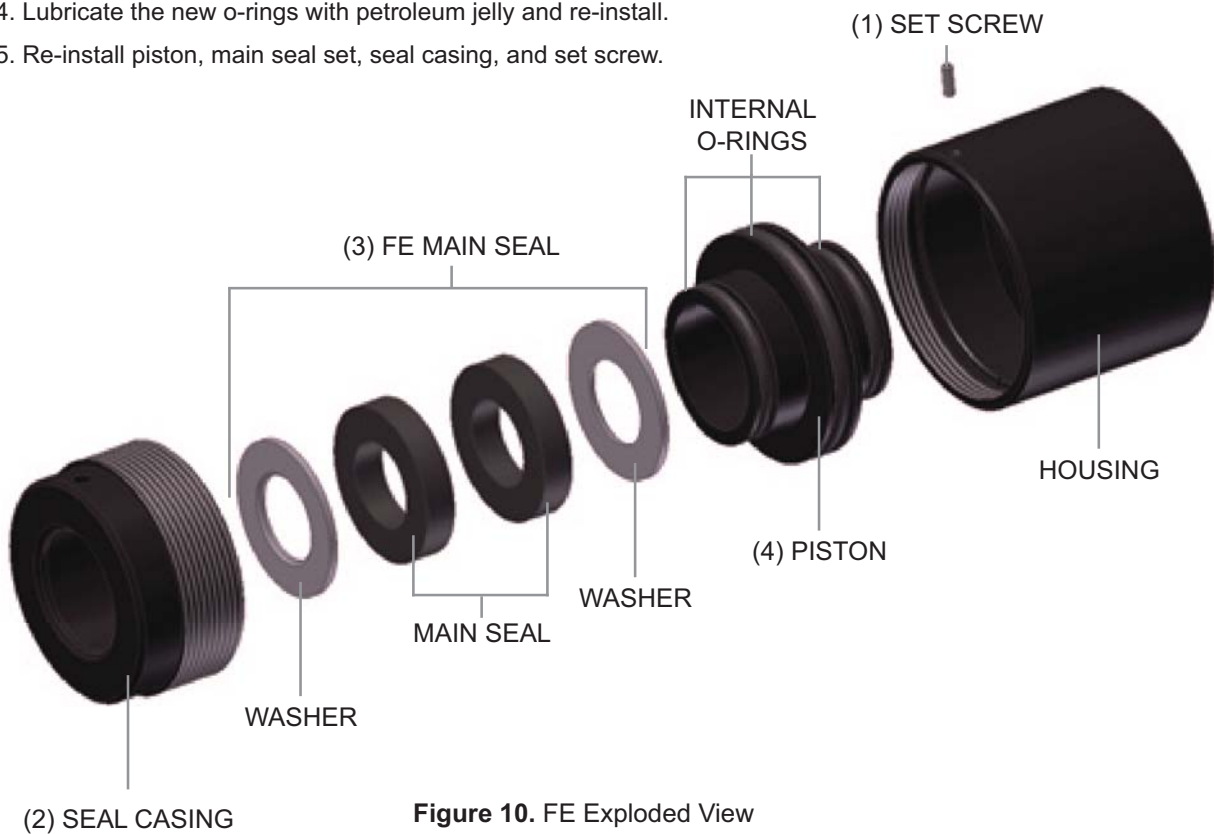

Figure 10. FE Exploded View
1. Loosen set screw (1) and remove seal casing (2) and main seal set (3).
2. Remove piston (4). This may require a short blast of air pressure.
3. Use a small pick to remove the internal o-rings. See Figure 10.